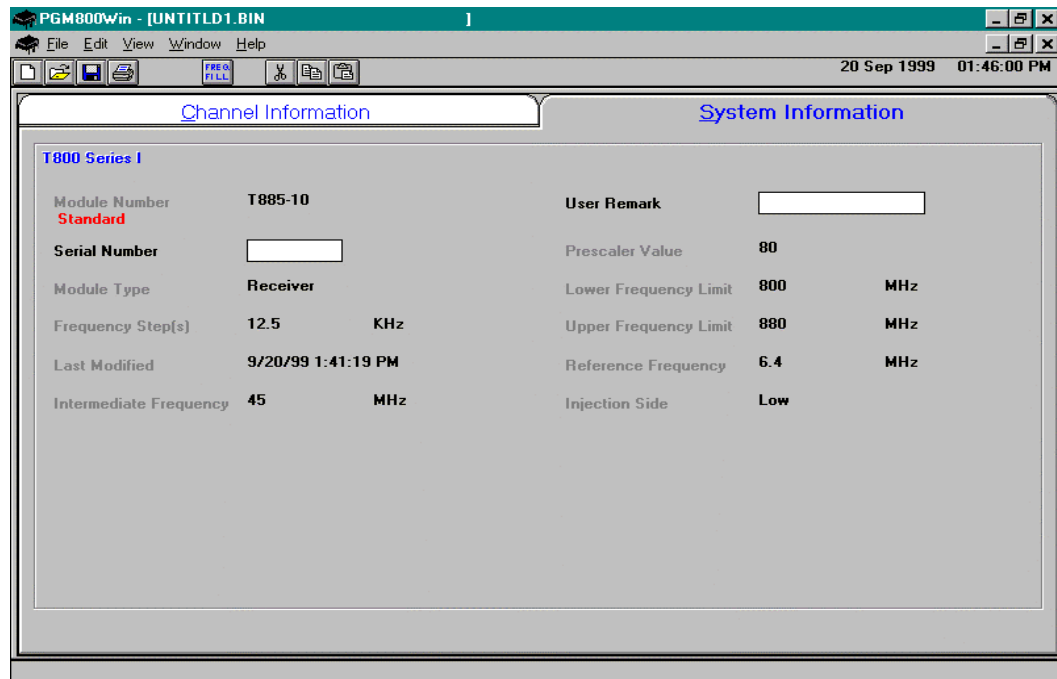

Figure 18 - Series I Receiver System Information
4. Click the System Information tab; enter the unit's serial number in the relevant field. In the *User Remarks* field, you may enter user comments as required (up to 16 characters). Use as a notepad (customer name, location, technical info etc...). Refer to Figure 18.